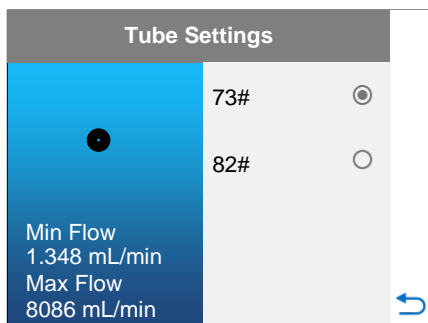

Figure 26 Tubing Selection
- **Tube Settings:** Choose the appropriate tubing size for the selected pump head. Swipe up and down to view the menu, as shown in Figure 26.